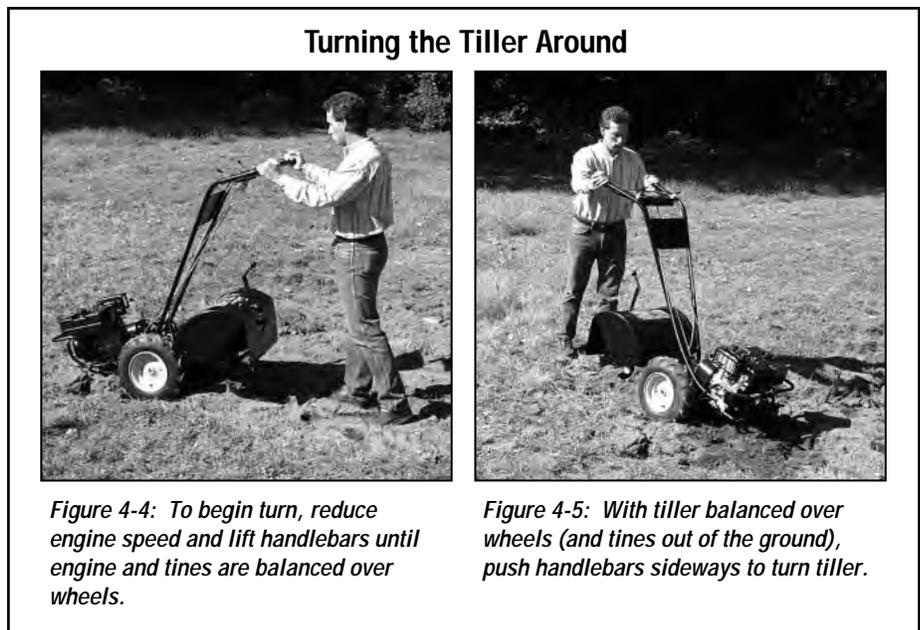

Figure 4-6
- When preparing a seedbed, go over the same path twice in the first row, then make individual passes right next to each other (see Figure 4-6). When finished in one direction, make a second